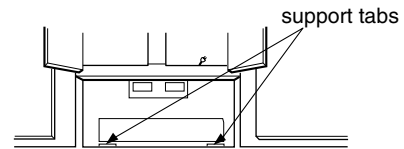
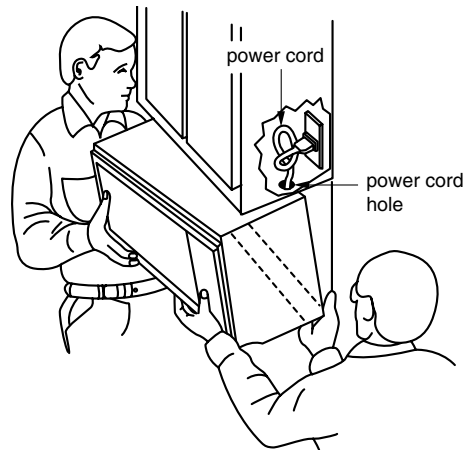

Figure 24
Figure 27
1. Carefully lift microwave oven and hang it on support tabs (See Figure 24, page 14) at the bottom of the mounting plate. Reaching through upper cabinet, thread power supply cord through the power supply cord hole in the bottom of the upper cabinet. See Figure 27.